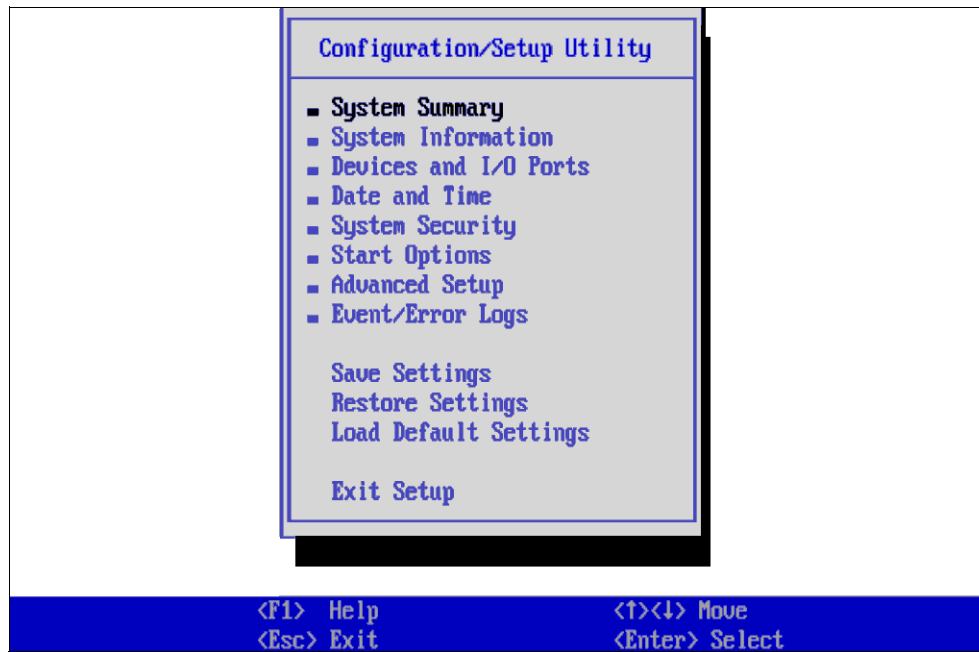

Figure 2-9 Disabling IDE Devices
2. Select **Devices and I/O ports** from the main menu, as shown in Figure 2-9.